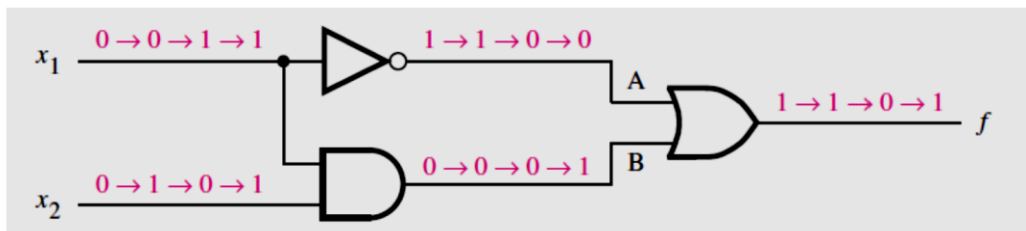
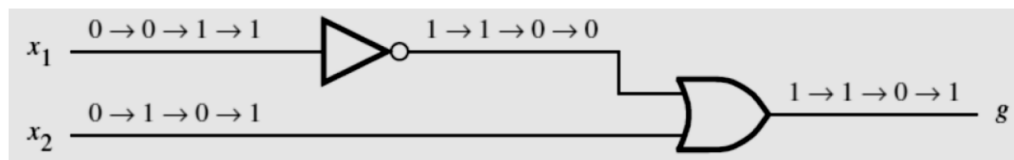

Figure 1.6
Figure 1.9
- To determine the functional behavior of the network in Fig. 1.6, we can consider what happens if we apply all possible values to input signals  $x_1$  and  $x_2$ . The analysis of these input values at various intermediate points is shown in Fig. 1.7.
- Going through the same analysis procedure, we find that the output 'g' in Fig. 1.9, changes in exactly the same way as f does in Fig. 1.6.